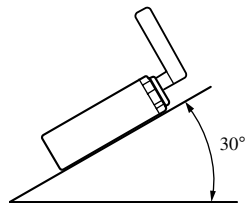

Fig. 7
- If installation angle exceeds  $30^\circ$  from horizontal, the unit might not give its optimum performance. (Fig. 7)